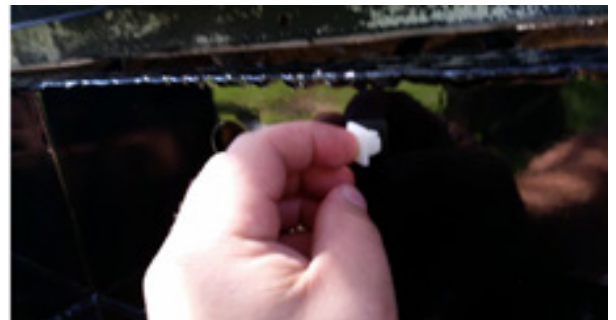

Figure 7
18. Install supplied license plate plastic nut inserts and license plate. (Figure 7) (61374-HW)